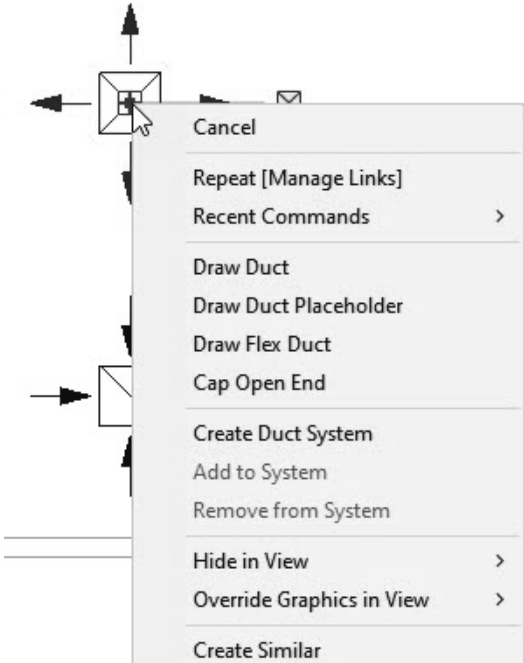

Figure 2-51
- 2. Right-click on the control and look at the variety of options you can use. Figure 2-51 shows a partial menu.